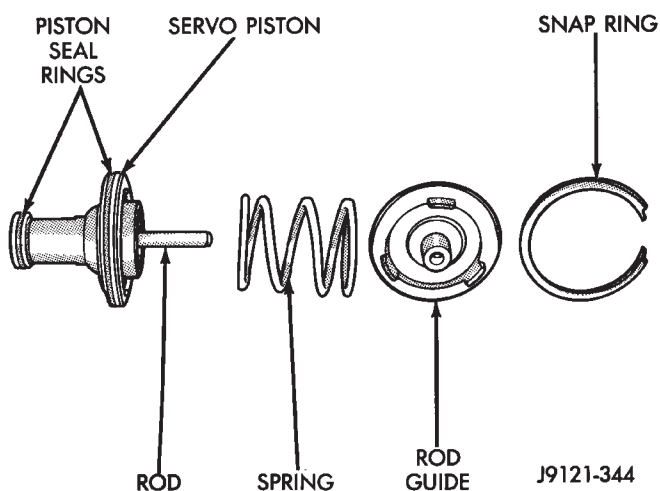

Fig. 105 Front Servo Components
(2) Install front servo piston assembly, servo spring and rod guide (Fig. 105).